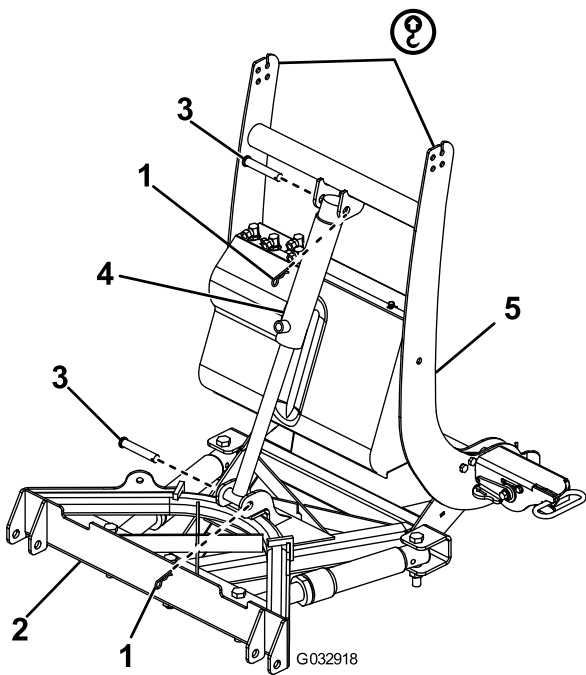

Figure 7
8. Secure the rod end of the lift cylinder to the push-frame assembly using a clevis pin and hairpin cotter (Figure 7).
- Secure the free end of the lift cylinder to the coupler tower using a clevis pin and hairpin cotter (Figure 7).